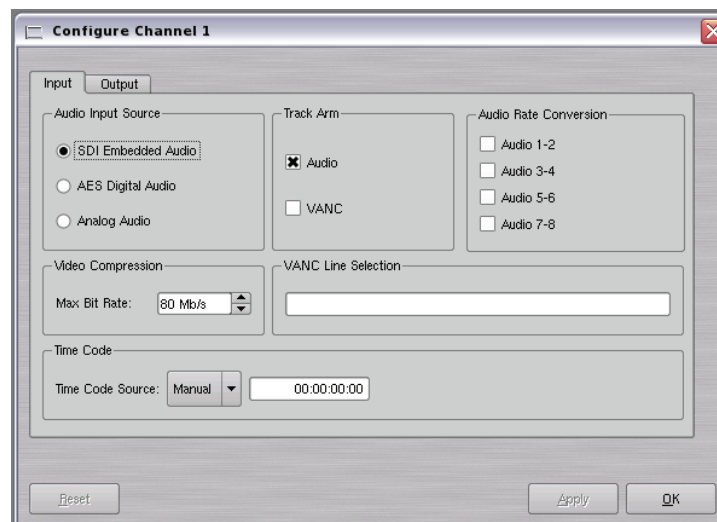

Figure 9 - Channel Configuration Dialog
Select **OPTIONS > CONFIGURE** from the Channel 1 Transport Window. The Dialog box in Figure 9 appears.
Select **OPTIONS >CONFIGURE** from the Channel 1 Transport Window. The Dialog box in Figure 9 appears.
- Select **OPTIONS >CONFIGURE** from the Channel 1 Transport Window. Refer again to Figure 9 - Channel Configuration Dialog.
- Select **OPTIONS >CONFIGURE** from the Channel 1 Transport Window. The Dialog box in Figure 9 appears.